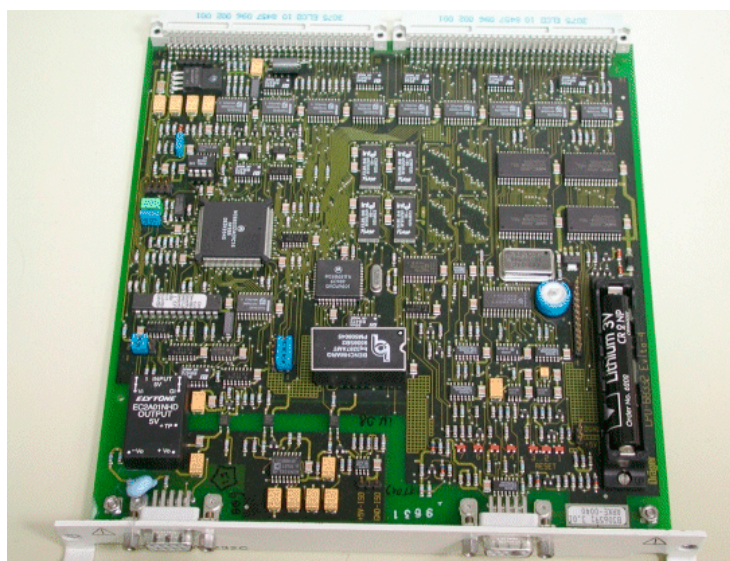

Figure 10 Real-time clock
8. Firmly push the new real-time clock into its IC socket, making sure the fitting position is correct (coding), see Figure 10.